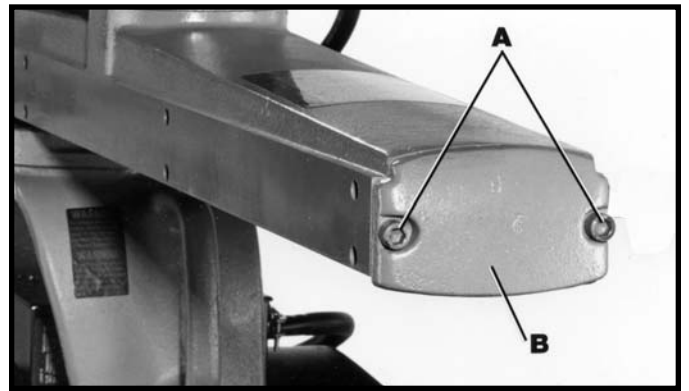

Fig. 8
1. Remove two screws (A) and end cap (B) from track-arm, Fig. 8.